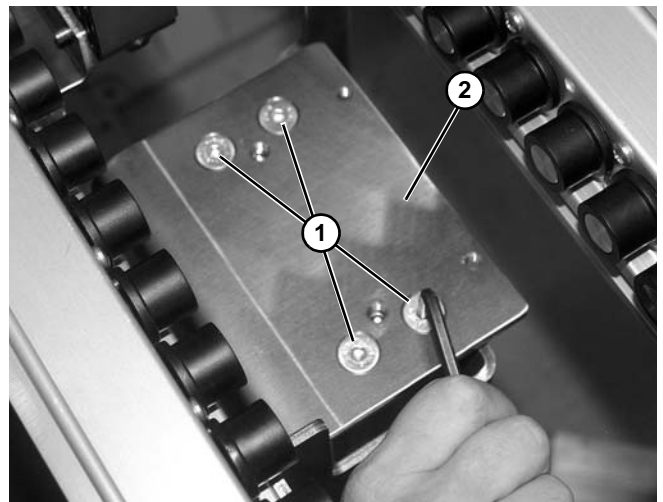

Figure 125
8. Remove four screws (**Figure 125, item 1**) securing top plate (**Figure 125, item 2**).